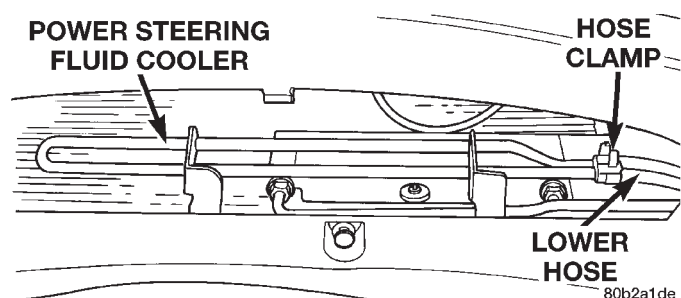
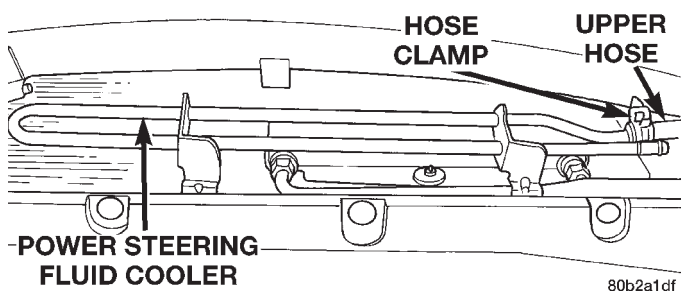
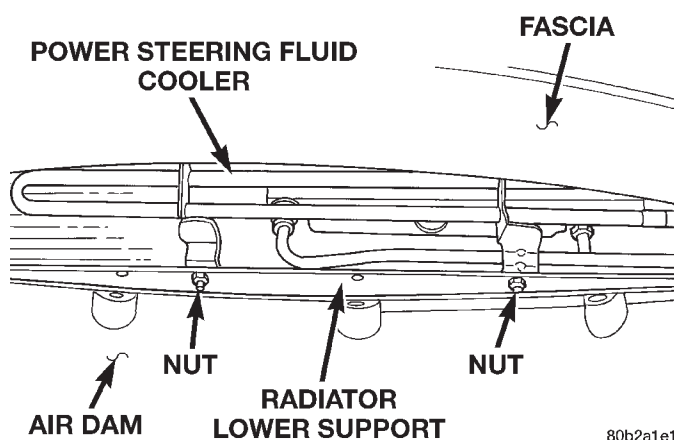

Fig. 12 Lower Hose At Power Steering Fluid Cooler
Fig. 13 Upper Hose At Power Steering Fluid Cooler
Fig. 15 Power Steering Fluid Cooler Attachment
(3) 300M only — The front fascia will require removal to access the power steering cooler. See Frames and Bumpers, Group 13, in this service manual for required procedure.
(4) Remove the hose clamp from the lower hose at the power steering fluid cooler (Fig. 12). Remove the lower hose from the power steering fluid cooler. Drain remaining power steering fluid from the hoses and the power steering fluid cooler.
(5) Remove the hose clamp and upper hose (Fig. 13) from the power steering fluid cooler.
(7) Remove the 2 nuts (Fig. 15) attaching the power steering fluid cooler to the radiator lower crossmember.
(8) Remove the power steering fluid cooler from the radiator lower crossmember.
(1) Install the power steering fluid cooler on the radiator lower crossmember.
(2) Install the 2 nuts (Fig. 15) attaching the power steering fluid cooler to the radiator lower crossmember. Tighten the attaching nuts to a torque of 12 N·m (105 in. lbs.).
(3) Install the air dam on the radiator lower support. Attach the air dam to the radiator lower support using **new retaining clips**.
(4) Install power steering fluid hoses (Fig. 13) and (Fig. 12) on the power steering fluid cooler. **Be sure hose clamps are installed on hose past the upset bead on the power steering oil cooler.**
(5) 300M only — Reinstall front fascia.
(6) Lower the vehicle to a point where front tires are just off the ground.